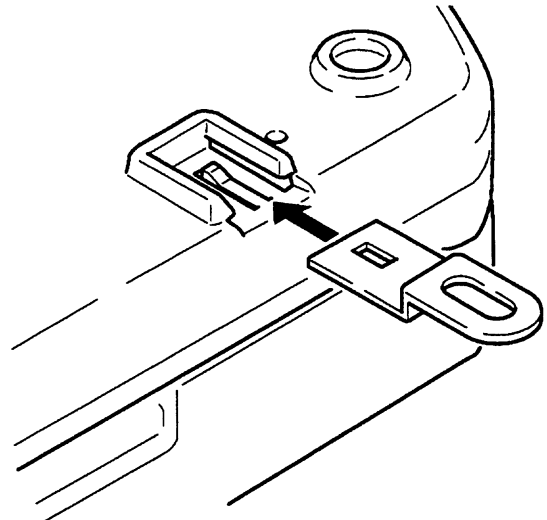

Figure 10: Mounting Bracket Installation
22. Install the four (4) mounting brackets to the underside of the “A” cartridge as shown in Figure 10.